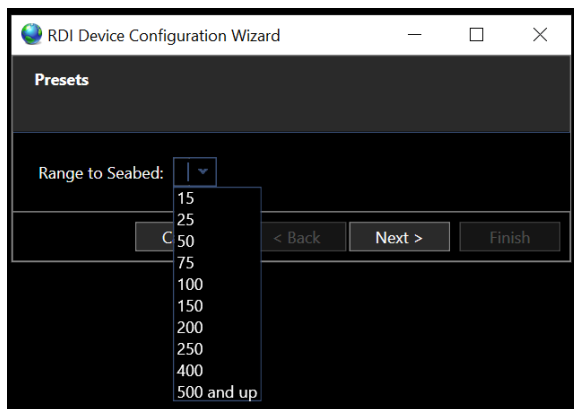
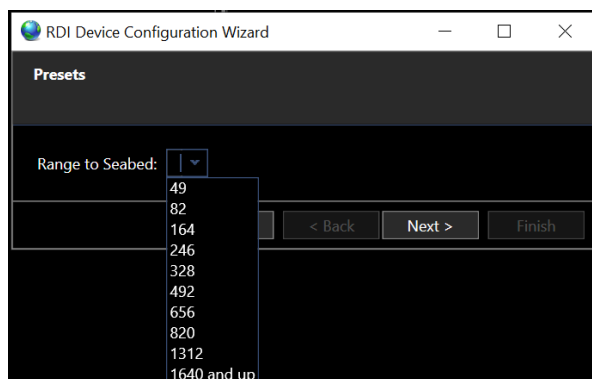

FIGURE 18-10 RANGE TO SEABED – HORIZONTAL CRS WGS84 UTM- METERS
FIGURE 18-11 RANGE TO SEABED – HORIZONTAL CRS NAD27 BLM- FTUS
- I. From drop-down menu select a preset approximate range to seabed, see Figure 18-10 and Figure 18-11